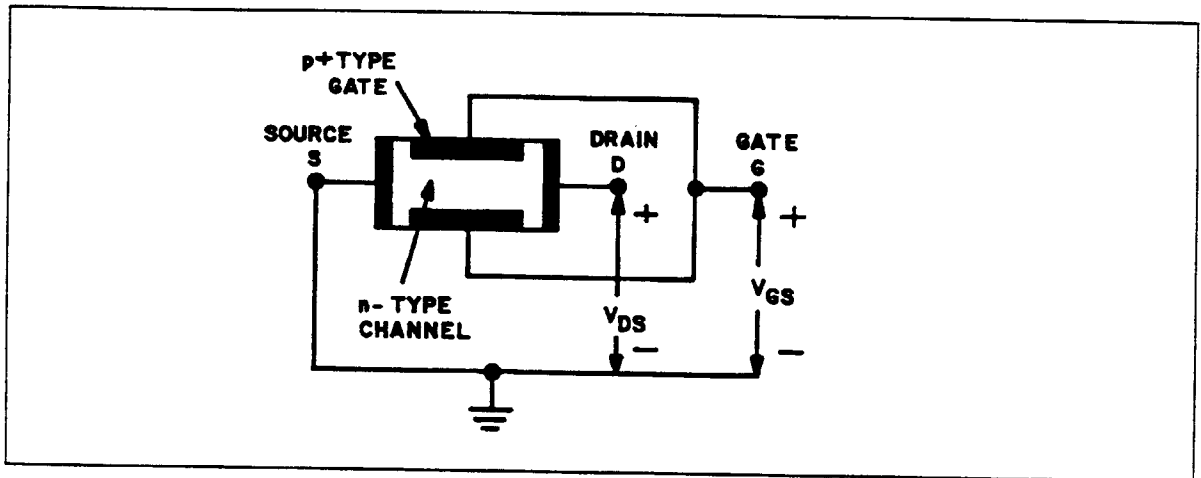
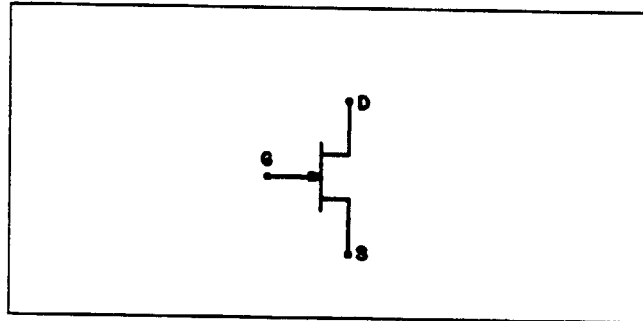

Figure 9-18. Basic Structure of an N-Channel JFET.
Figure 9-19. Circuit Symbol for an N-Channel JFET.
The structure of an N-channel Junction Field Effect Transistor (JFET) is shown in Figure 9-18. Resistive contacts are made to the ends of a semiconductor bar of N-type material (if P-type material is used, the device is referred to as a P-channel JFET). The voltage supply connected to the ends causes current to flow along the length of the bar. This current is made up of majority carriers, which in this case are electrons. The circuit symbol is shown in Figure 9-19.
GATE: On both sides of the N-type bar shown in Figure 9-18, heavily doped (P+) sections of acceptor impurities have been created by alloying, by diffusion, or by some other means of creating P-N junctions. These sections of impurities are called the gate (G). The gate to source voltage (V_{gs}) is applied to reverse bias the P-N Junction. The current entering the bar is designated I_g .